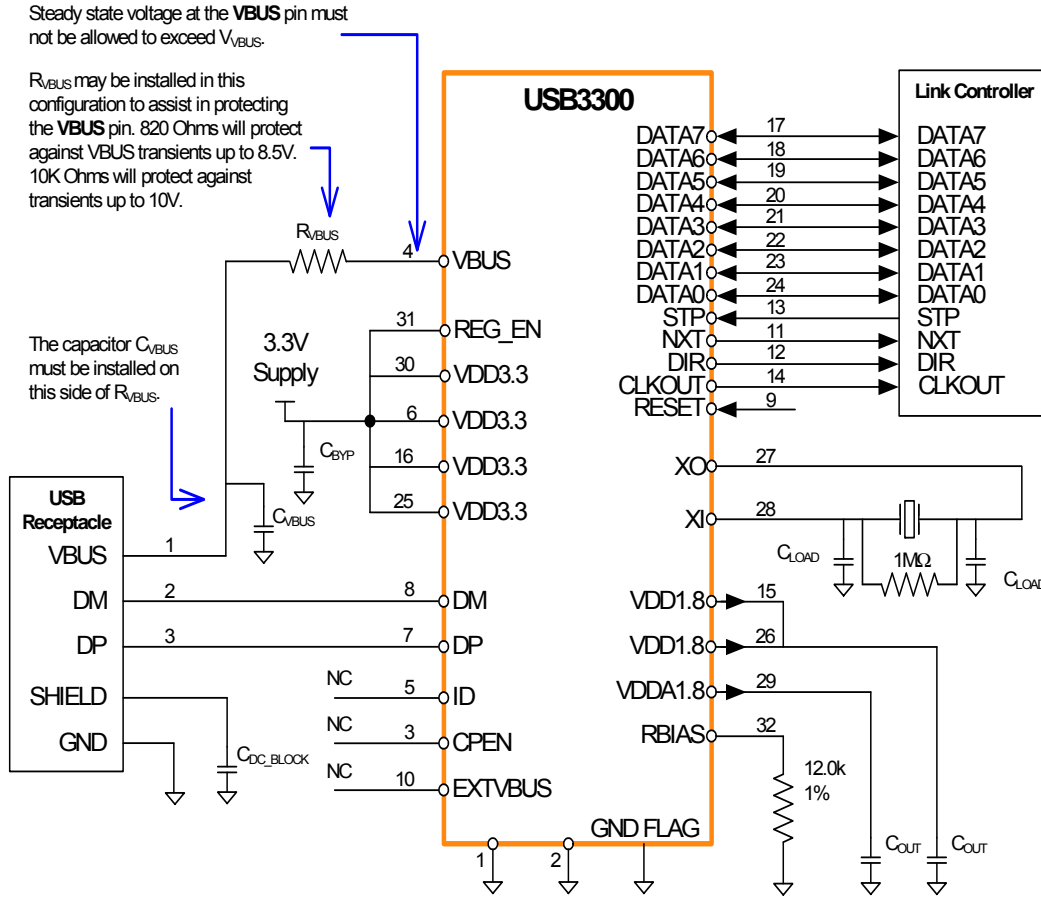
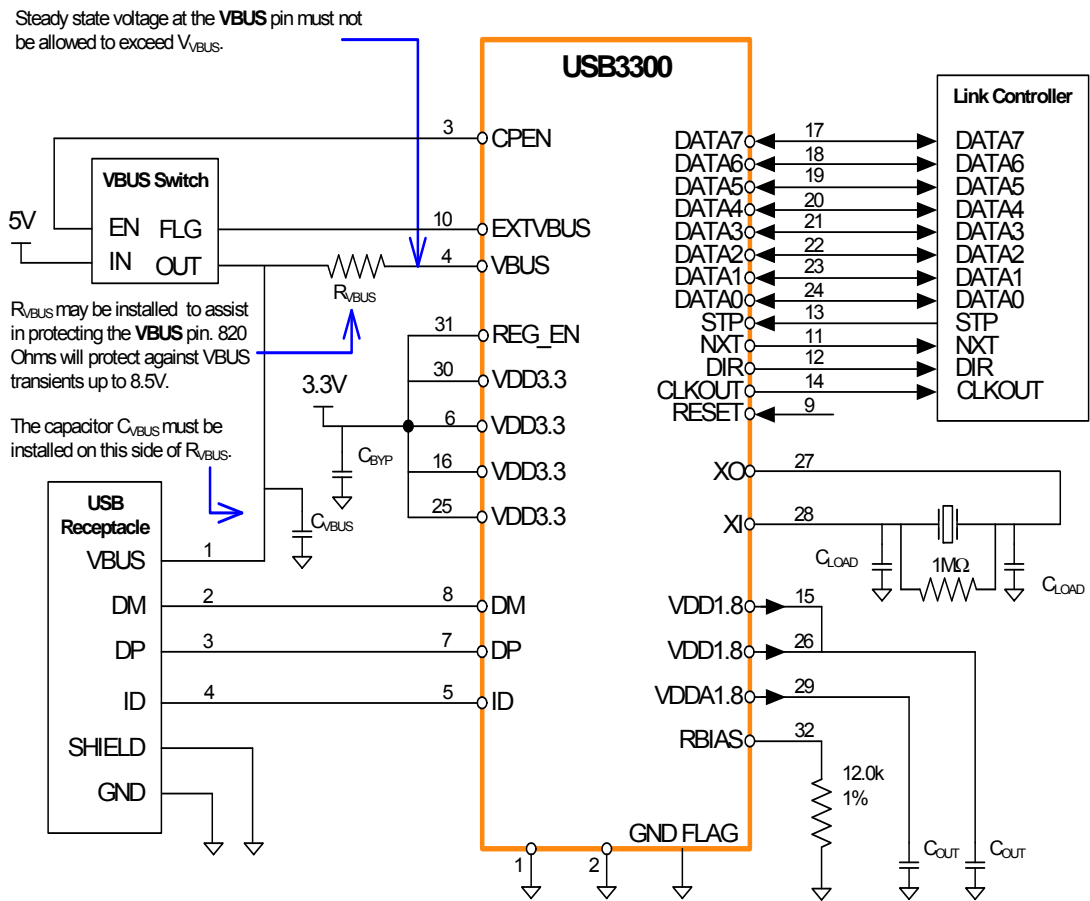

Figure 7.1 USB3300 Application Diagram (Peripheral)
Figure 7.2 USB3300 Application Diagram (Host or OTG)
The USB3300 can use either a crystal or an external clock oscillator for the 24MHz reference. The crystal is connected to the XI and XO pins as shown in the application diagram, Figure 7.1. If a clock oscillator is used the clock should be connected to the XI input and the XO pin left floating. When an external clock is used the XI pin is designed to be driven with a 0 to 3.3 volt signal. When using an external clock the user needs to take care to ensure the external clock source is clean enough to not corrupt the high speed eye performance.
**Note:** The specific capacitor recommendations for each pin are detailed in Table 3.1, "USB3300 Pin Definitions 32-Pin QFN Package", and shown in Figure 7.1 USB3300 Application Diagram \(Peripheral\) on page 49. The USB3300 regulators are designed to generate a 1.8 volt supply for the USB3300 only. Using the regulators to provide current for other circuits is not recommended and SMSC does not guarantee USB performance or regulator stability.
One method of protecting the VBUS pin from excessive voltage (transients) is to place a resistor ( $R_{VBUS}$ ) in series as shown in Figure 7.1, "USB3300 Application Diagram (Peripheral)" and Figure 7.2, "USB3300 Application Diagram (Host or OTG)". The resistor provides protection against transients that exceed the value of  $V_{VBUS}$  provided in Table 4.2, "Recommended Operating Conditions". When  $R_{VBUS}$  is installed, the transient must not be allowed to exceed the value of  $V_{VBUS}$  for longer than 500  $\mu$ s.